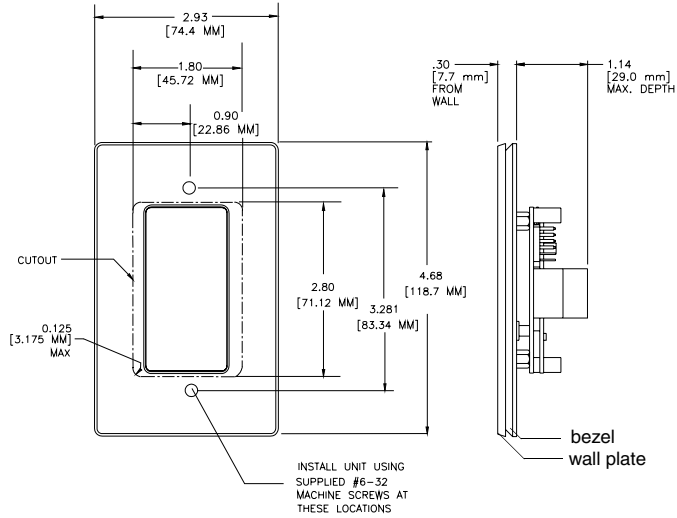

FIG. 5 IRX-DM+ Mounting Dimensions
1. For wall or podium mounting (FIG. 5), AMX recommends mounting the IRX-DM+ in a standard 1-gang wallbox with a minimum internal clearance of 1 3/4" (W) x 2 5/8" (H) x 1 5/8" (D).